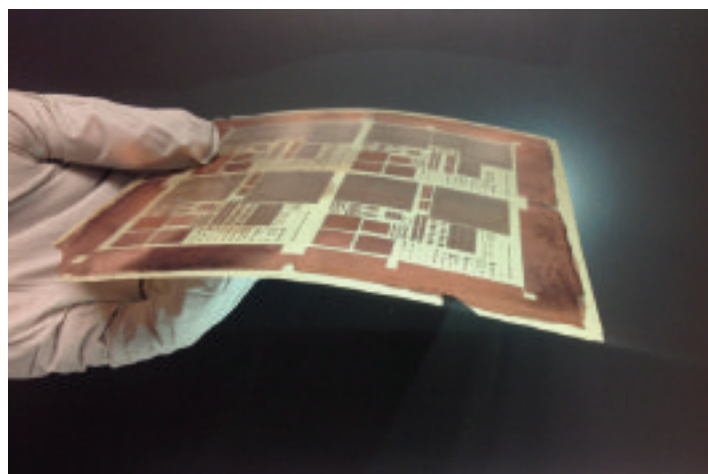

FIGURE 1. A 30 μm thick flexible glass interposer made by Schott Glass.
Glass may be preferable to silicon as an interposer because it is a less expensive material, it can be provided in thin sheets (silicon has to be ground and polished to the proper thickness) and it is thermally insulating. Silicon is a semiconductor, not an electrical insulator, which can cause problems with crosstalk between chips. FIGURE 1 shows a 30 μm thick flexible glass interposer made by Schott Glass.
FIGURE 1. Typical application: Root Cause Deconvolution determines root cause distribution and devices most likely to fail for each root cause. Defect courtesy [2].
A typical application of RCD is shown in **FIGURE 1**. For one wafer, the failing cycles are recorded for devices that failed scan test patterns, and then layout-aware diagnosis is performed (1). RCD analysis is done on the diagnosis results, identifying the underlying root cause distribution (2). This result can then be compared with equivalent distributions from the same design or comparable designs. Having this data available before any devices are submitted to PFA significantly accelerates the analysis time. You can then select the root cause of interest, in this case the most significant contributor. The RCD analysis will then identify the die that have the largest probability of failing because of this defect mechanism. Before submitting a die to PFA (4), you know where to look for the defect, and also what to look for.